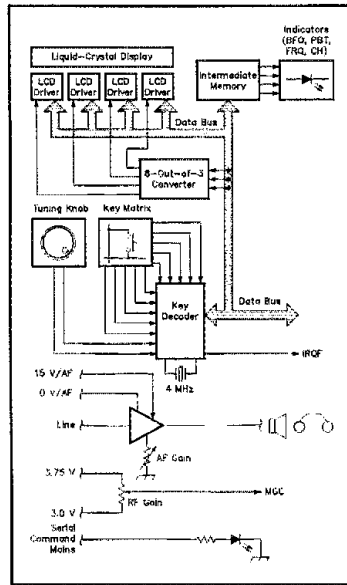

Fig 3A—Block diagram of the bus and control structure of a modern receiver.
2) All possible combination of functionalities between frequency steps, operating modes, BFO frequency offset and pass-band tuning must be freely and independently programmable and storable as one data string in memory. See Fig 3A and B.